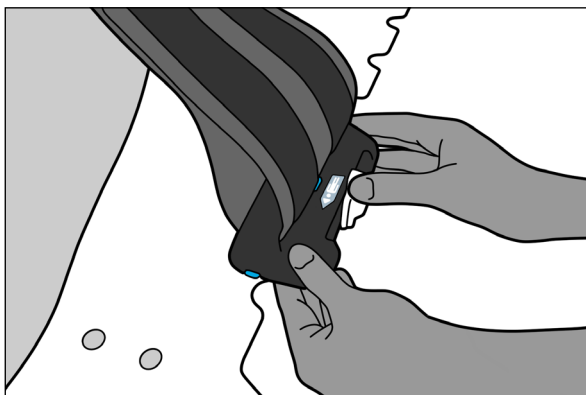

Fig. 8
5. Rotate lever clockwise to lock clamp to device (Fig. 8).